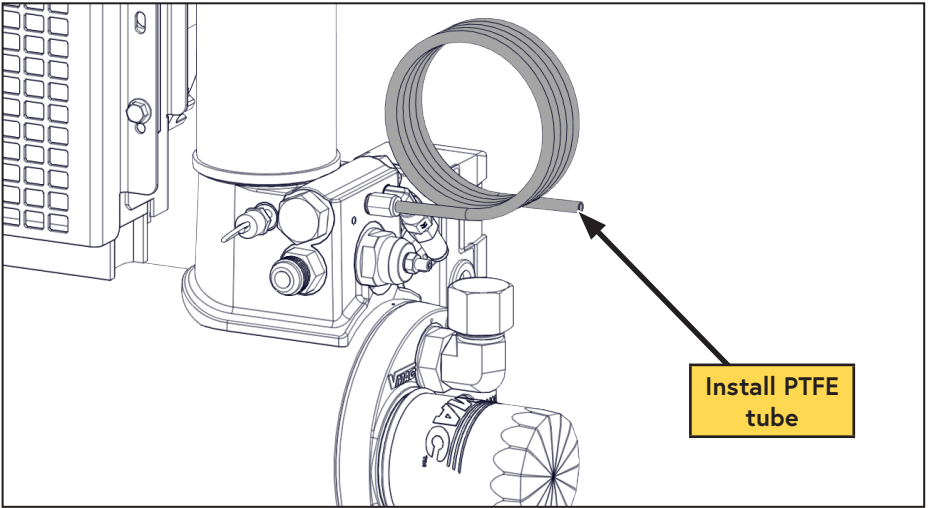

Figure 41 — Tubing Installation
- Connect the 1/4 in PTFE tube into the push-to-connect fitting installed in the WHASP Tank (Figure 41).